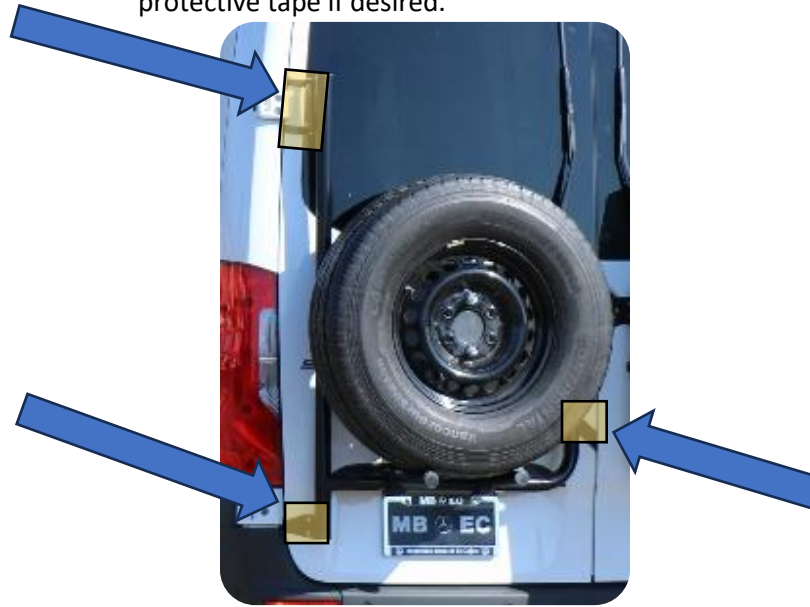

Figure 3: Protective Tape Locations on Door
5. Cut the supplied protective tape into shape using the templates at the end of the installation instructions to provide additional protection for the door. Each bracket is designed to contact only at the door edges, but enough protective tape is provided to cover the entire overlapping area. Make sure that the sticky side is oriented correctly while cutting and applying (white backing towards vehicle). Reference Figure 3 & 4.